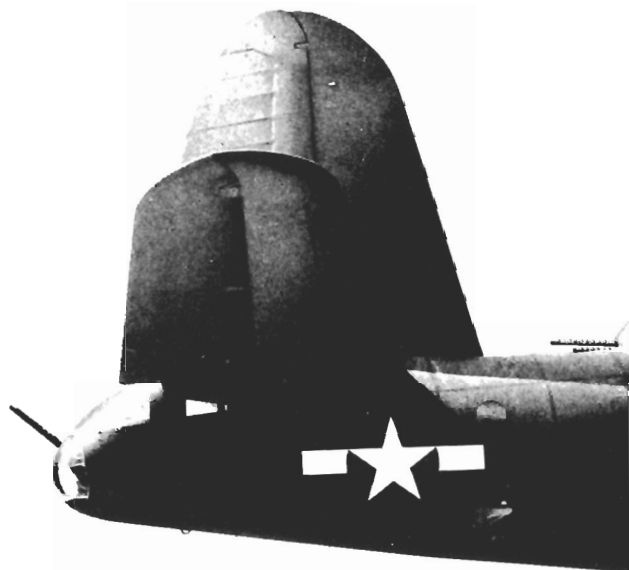

Figure 80 — Aft Section of Airplane
9. TAIL GUN COMPARTMENT. (See figures 80 and 81.)